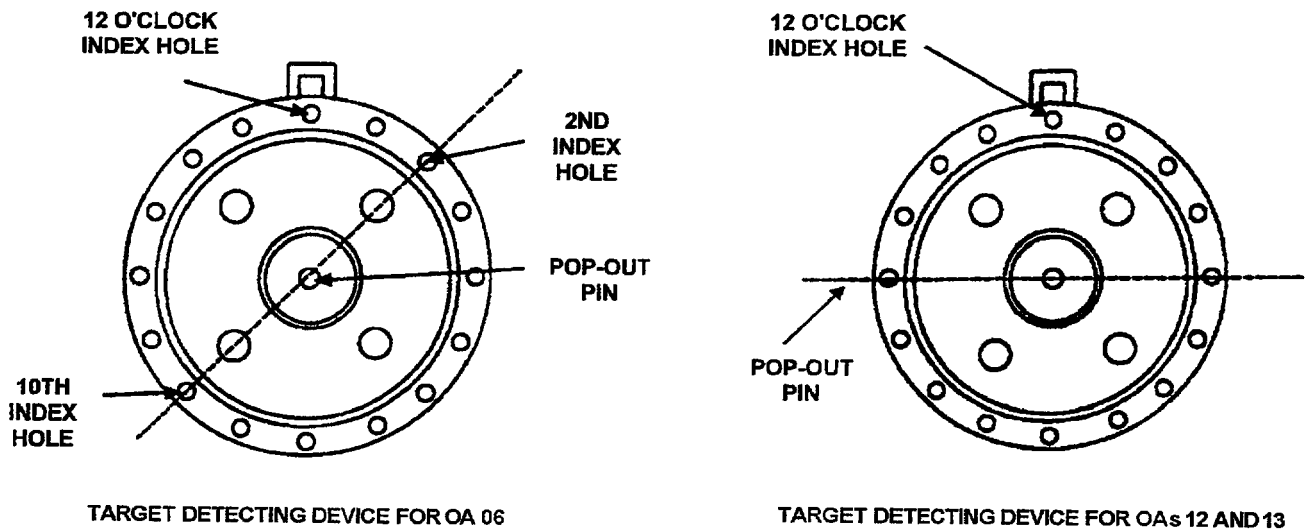

Figure 4-13B. TDD Pop-Out Pin Orientation
- For F/A-18 Aircraft: Verify arming wire holes in pop-out pin are aligned on aft end of bomb, as shown in Figure 4-13B, OA 06.
- For B-1 and B-2 Aircraft: Verify arming wire holes in pop-out pin are aligned with the fourth index hole on aft end of bomb, as shown in Figure 4-13B, OA 12 and 13.